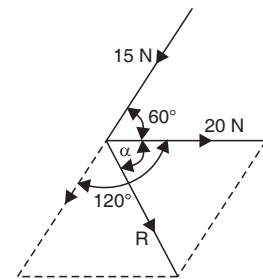

Fig. 2.19
**Sol. Case (a).** Refer to Fig. 2.19.
(b) Refer to Fig. 2.19